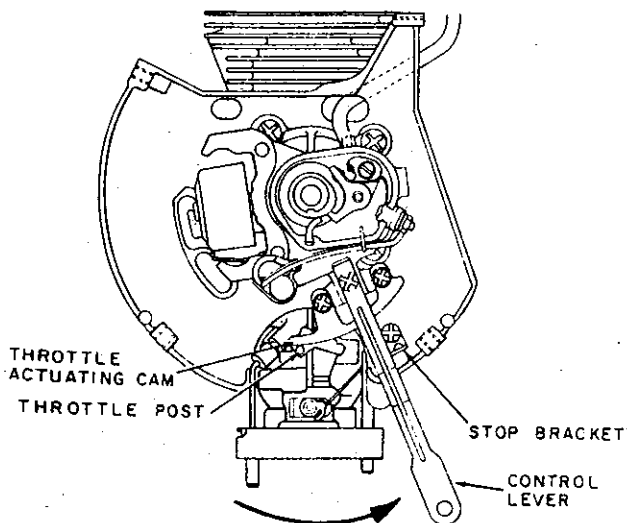

Figure 28
- M. Move the stator counter-clockwise, advancing the timing until the continuity reading breaks and reads zero. Tighten the stop bracket so that the stator won't move any further counter-clockwise. (See Figure 28.)